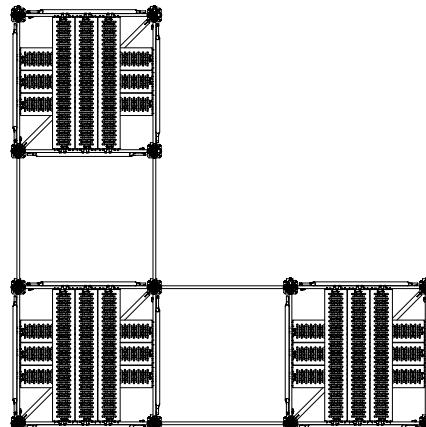

Fig. B1.07
- Connecting the scaffold towers by means of Ledgers UH; alternatively with scaffold tubes and couplers. Fig. B1.07